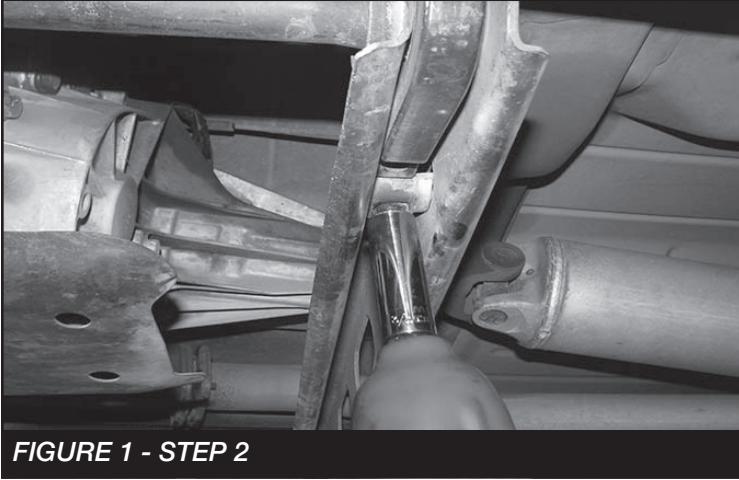

FIGURE 1 - STEP 2
2. Locate and remove the torsion bar adjusting bolts. Save for re-installation. **SEE FIGURE 1**